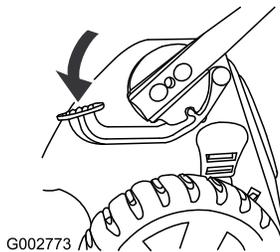

Figure 49
3. With the engine running and the blade engaged, spray a stream of water in front of the right rear wheel (Figure 49).
1. Step on the foot pedal and hold it down (Figure 49).